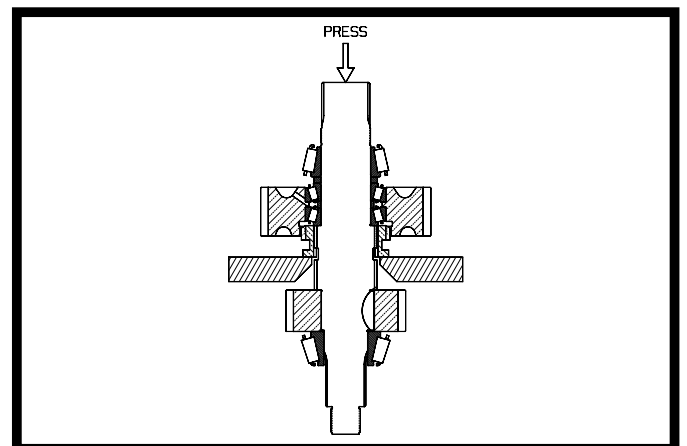

Figure 4.13
- Place the shaft assembly in a press so that the clutch collar is supported and the press arbor bears against the end of the shaft. **Do not support the assembly by either one of the gears.** See Figure 4.13. Remove the (3) bearing cone assemblies, the gear assembly, the two spacer rings, and the clutch collar.